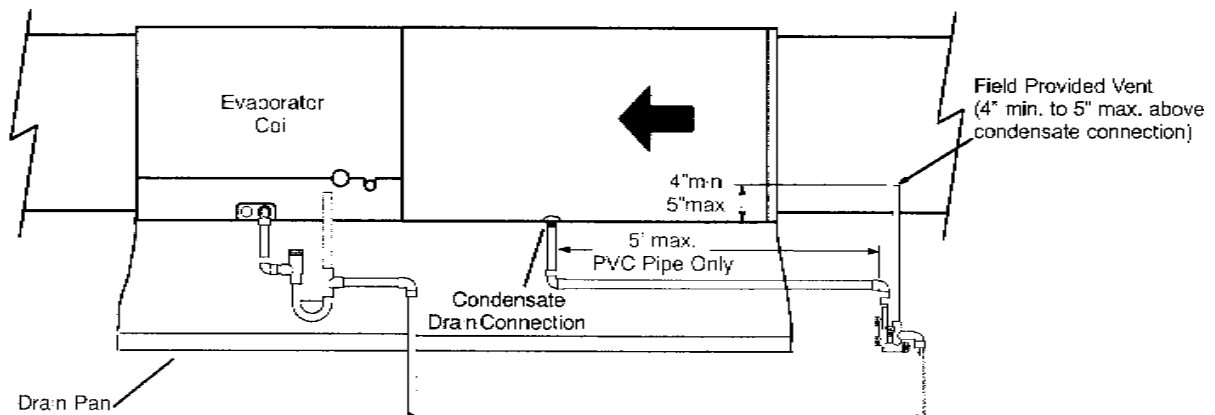

Figure 33
5. Figures 33 and 34 show the furnace and evaporator coil using a separate drain. If necessary the condensate line from the furnace and evaporator coil can drain together. See Figures 35, 36 and 37.
Horizontal furnace (Figure 33 or 37) In horizontal furnace applications the field provided vent must be a minimum 4" to a maximum 5" length above the condensate drain outlet connection. Any length above 5" may result in a flooded heat exchanger if the combined primary drain line were to become restricted.